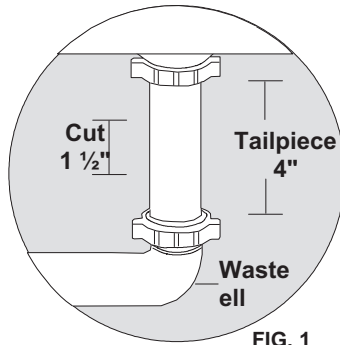
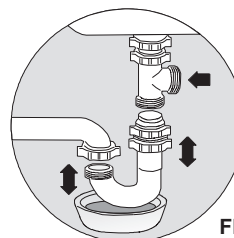

FIG. 1
FIG. 6
1. Measure the midpoint on the vertical tailpiece between the basket strainer and the horizontal waste ell. A minimum of 4" of "exposed" tubing is required. (See Fig. 1)
2. Cut out 1 1/2" of tubing (3/4" on both sides of midpoint measurement). (See Fig. 1) Always ensure that tube ends are cut squarely and inserted into the bottom of all slip joint (S.J.) sockets.
NOTE: To install the ET112-001 to a single compartment sink without disposal, follow instructions 1-7 above with the following exception: Once you have removed 1 1/2" of the tubing from the center of the tailpiece (Fig. 1), disconnect and lower the J-bend of the trap. Insert the 3-way repair tee, then reconnect the trap. Use a bowl to catch trap water. (See Fig. 6)